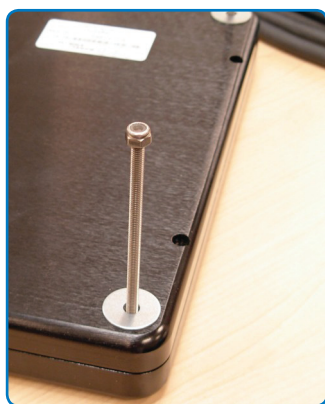

Figure 4
There are three mounting holes in the back of the Display for attachment of a ball mounting plate. Take care not to strip the screw holes or over tighten. (Figure 4) It is recommended the remaining ball be mounted on a flat surface. Because of various surface substrates where the Display is mounted, the installer provides the screws to mount the other ball.
Panel Mount installation should be specified at time of order; the ball-and-socket mount system will not be included in shipping box. (Figure 4) There are four tapped mounting holes on four corners of the Display's rear panel. A mounting hardware packet is included with product accessories in the shipping box. This packet includes four (4) M4 stainless steel threaded studs, 7.6cm (3" long), four (4) Nylock self-locking nuts and four (4) flat washers.